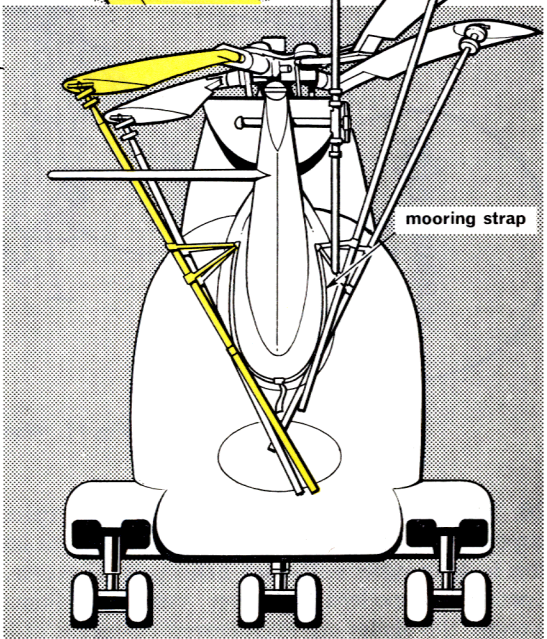

Fig. 12. Helicopter Main Rotor Blade Folding
20. **Main rotor blade folding.** To reduce the space required for parking, servicing, or storing a helicopter, the main rotor blades can be folded to lay back along the side of the fuselage. Precisely how this is done varies with each helicopter. However, to illustrate the general principles involved in the operation, a modern helicopter, namely the Puma, is used as an example (Fig. 12). On this particular aircraft the blades are manoeuvred by means of long folding posts which, at the end of the folding process, are secured to the fuselage where they remain to support the weight of the folded blades. Assuming that the aircraft has been parked correctly, the stages in the blade folding procedure are:
- Supporting the weight of blade (1) using the folding post, remove the foremost of the two pins attaching the blade to the rotor drive. The pin remaining in place then becomes the folding hinge.
- Move blade (1) back and, at the end of the folding travel, hook the folding post on to the fuselage bracket. During this latter part of the operation, the weight of the blade is supported by an assistant using a backing post.
- Repeat the manoeuvre for blade (2) and, when the folding post is hooked in position, secure it to the other post in position with a mooring strap.
- Fold and secure blades (3) and (4) and posts in the same way.